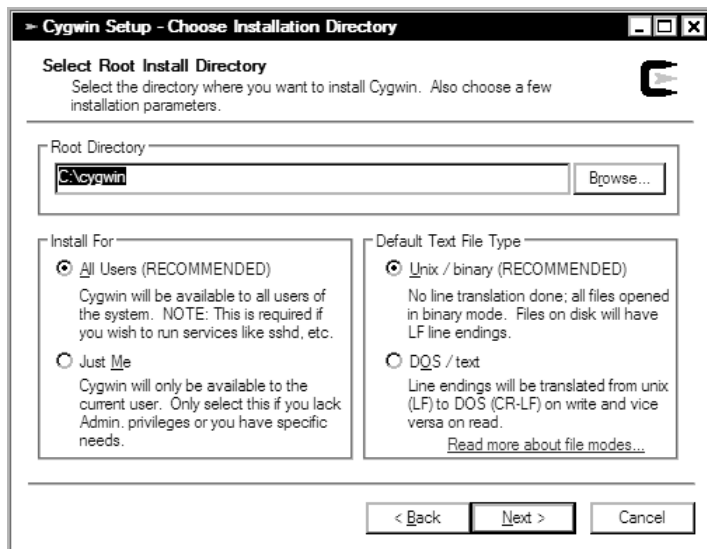

Figure 2-8. *Cygwin installation: selecting an installation directory*
12. You're asked where to install Cygwin (see Figure 2-8). This is the root of the Cygwin installation: all the files are installed under this directory, and when Cygwin is run, this directory maps to the root file system. I talk more about what that means in the section "Cygwin's View of the File System." The default, under most circumstances, is correct.